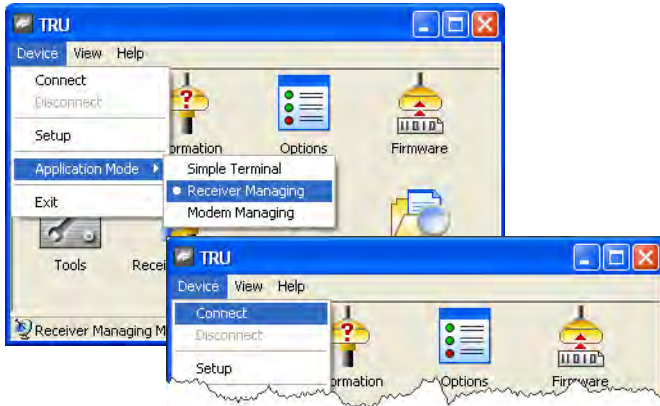

Figure 2-18. TRU – Connecting (1)
2. Run the TRU program and click **Device ▶ Application Mode ▶ Receiver Managing**. Then click **Device ▶ Connect** (Figure 2-18).